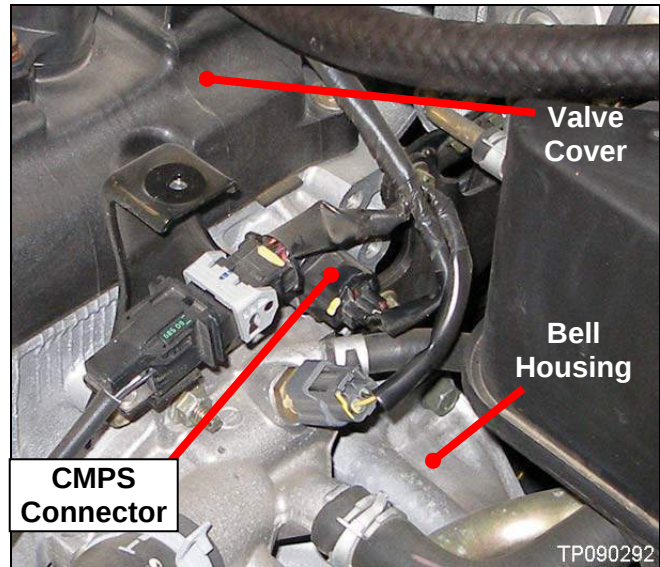

Figure 3
5. Unplug the Camshaft Position Sensor (CMPS) connector (see Figure 3).